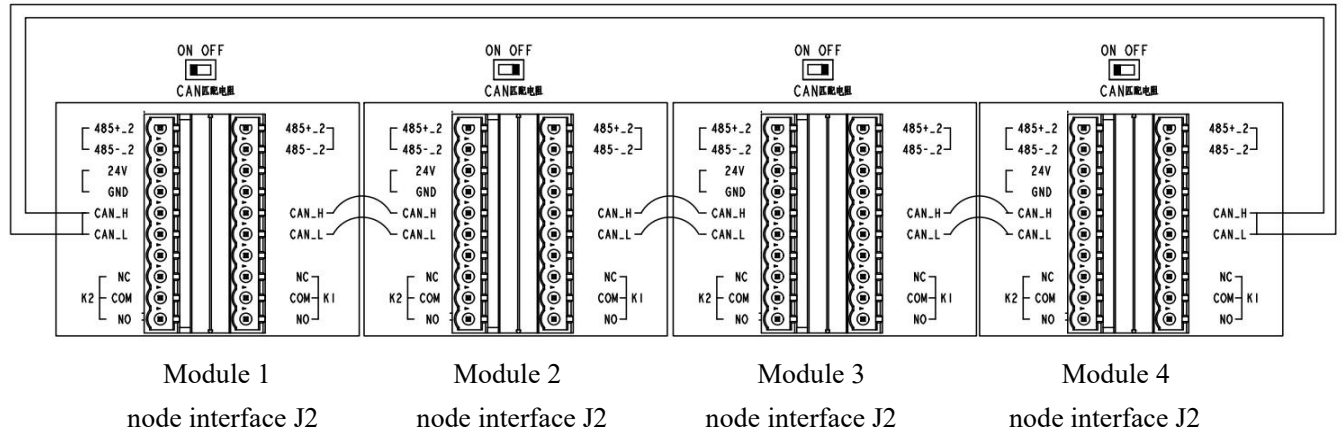
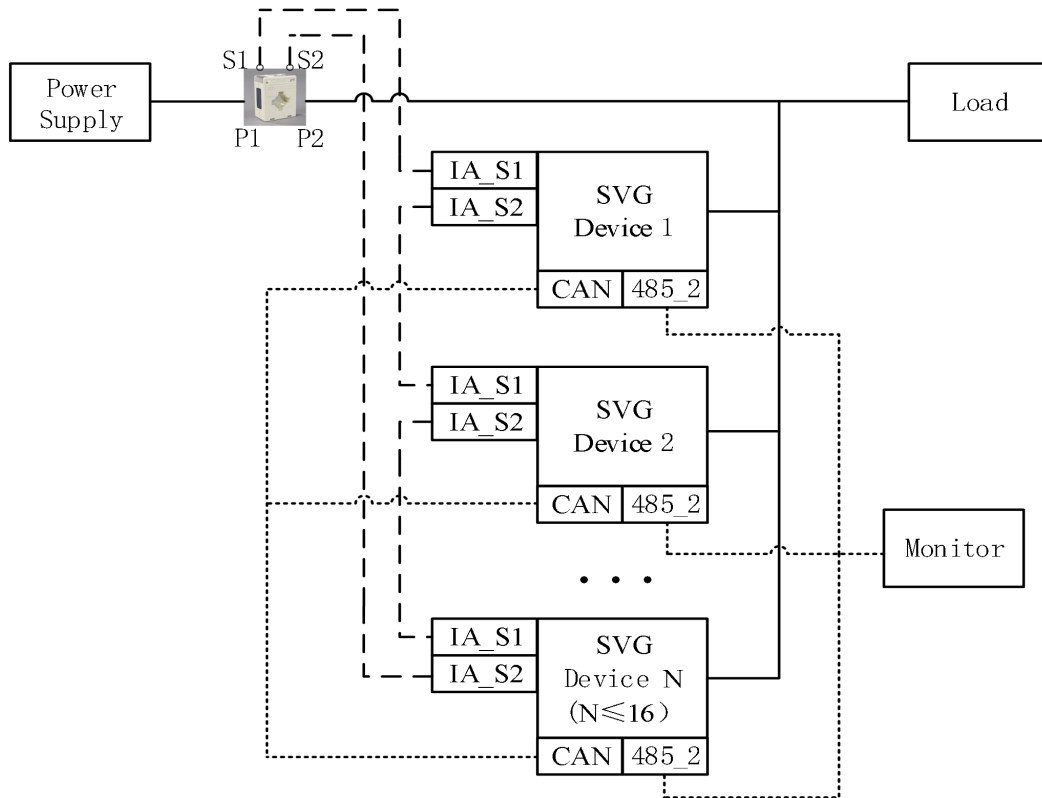

Figure 3-6 Schematic diagram of module parallel CAN communication wiring (CT on the source side)
Figure 3-8 Schematic diagram of power distribution and monitoring wiring during parallel operation (CT on the source side)
(1) Place the CT on the source side as shown in Figure 3-8. It should be noted that for this wiring method, CAN wires are required between modules to connect the parallel modules in parallel, and the CAN matching resistors of the first and last SVG modules should be turned to "ON" as shown in Figure 3-6.